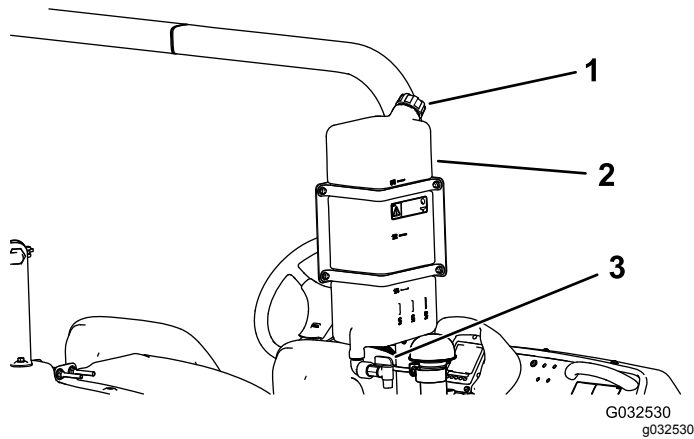

Figure 27
- To fill the tank, unscrew the cap at the top of the tank, fill the tank with fresh water, and install the cap (Figure 27).
- To open the fresh-water tank spigot, turn the lever on the spigot (Figure 27).